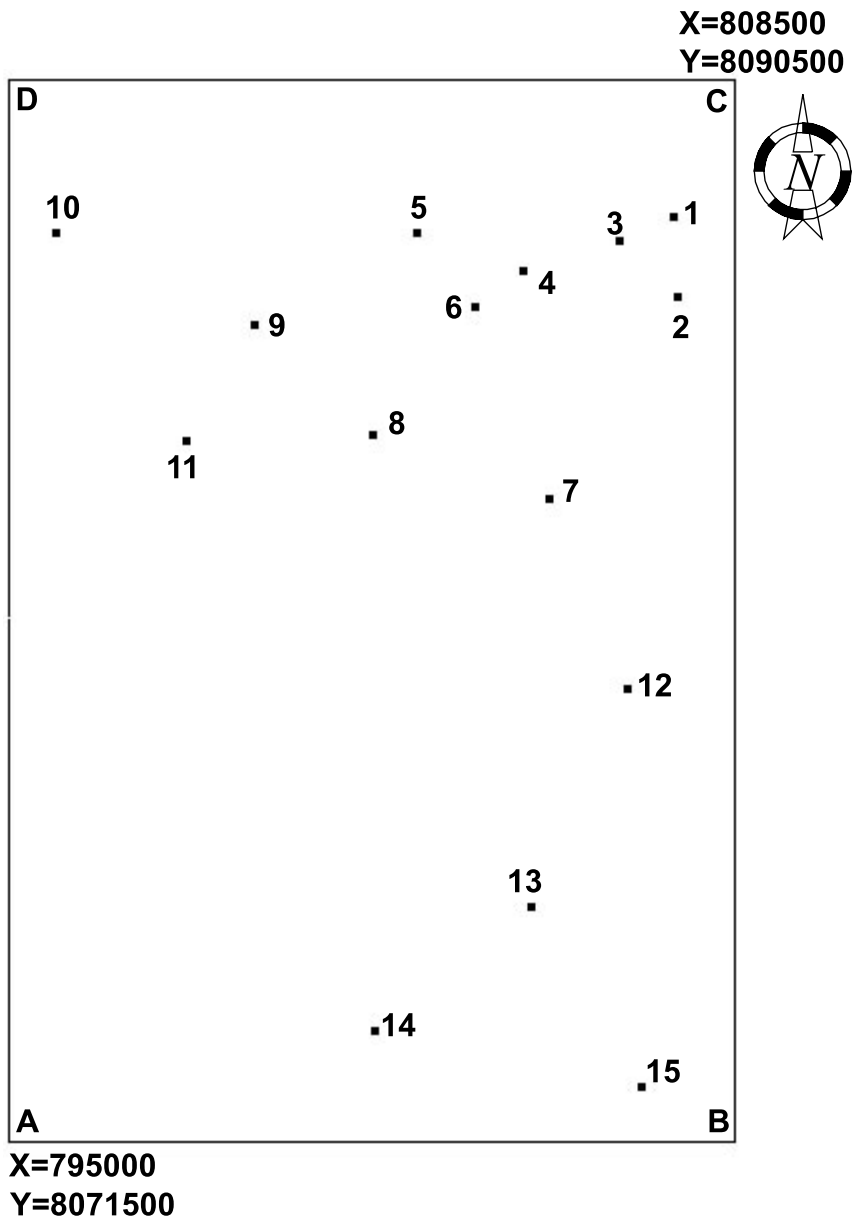

Figure 3.3: Point map Mountain_top.
The map that you are going to digitize first, is shown in Figure 3.3. You can see from the map that the actual study area is located between the following coordinates (in UTM zone 19):
To digitize a map, the coordinate system of the map must be referenced to that of the digitizer. In this exercise the point map shown in Figure 3.3 will be referenced.
- Make a photocopy of Figure 3.3.
In this exercise a point map called `Mountain_top` will be created. The points in the map show the peaks of mountains and hills in the Cochabamba area, Bolivia. A hard-copy of the map is presented in Figure 3.3. A photocopy of the same map was used in the previous exercise for map referencing.
- ! It is assumed that the photocopy of Figure 3.3 is still attached in the same position on your digitizer table. If you removed the map, you will have to repeat the map referencing (explained in the previous exercise), since the position of the control points on the digitizer may have changed.
- Digitize the rest of the points (Figure 3.3) and label them as follows:
Table 3.1: The codes used for digitizing the points in Figure 3.3.